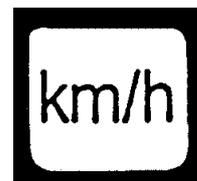

Fig.12
4.3.5 Touche "Vitesse"(Fig.12)